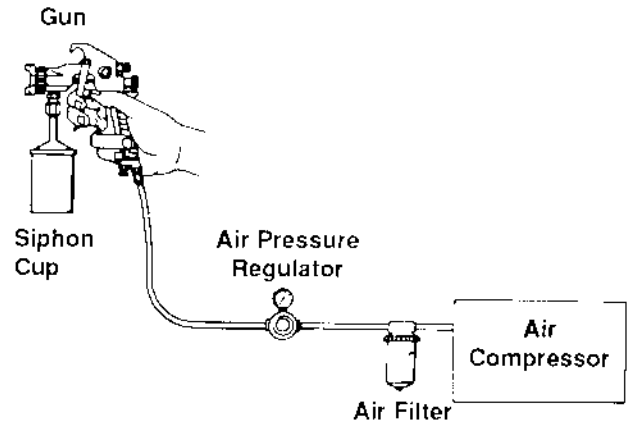

Figure 3. Siphon Feed System
2. Siphon Feed System (see figure 3).